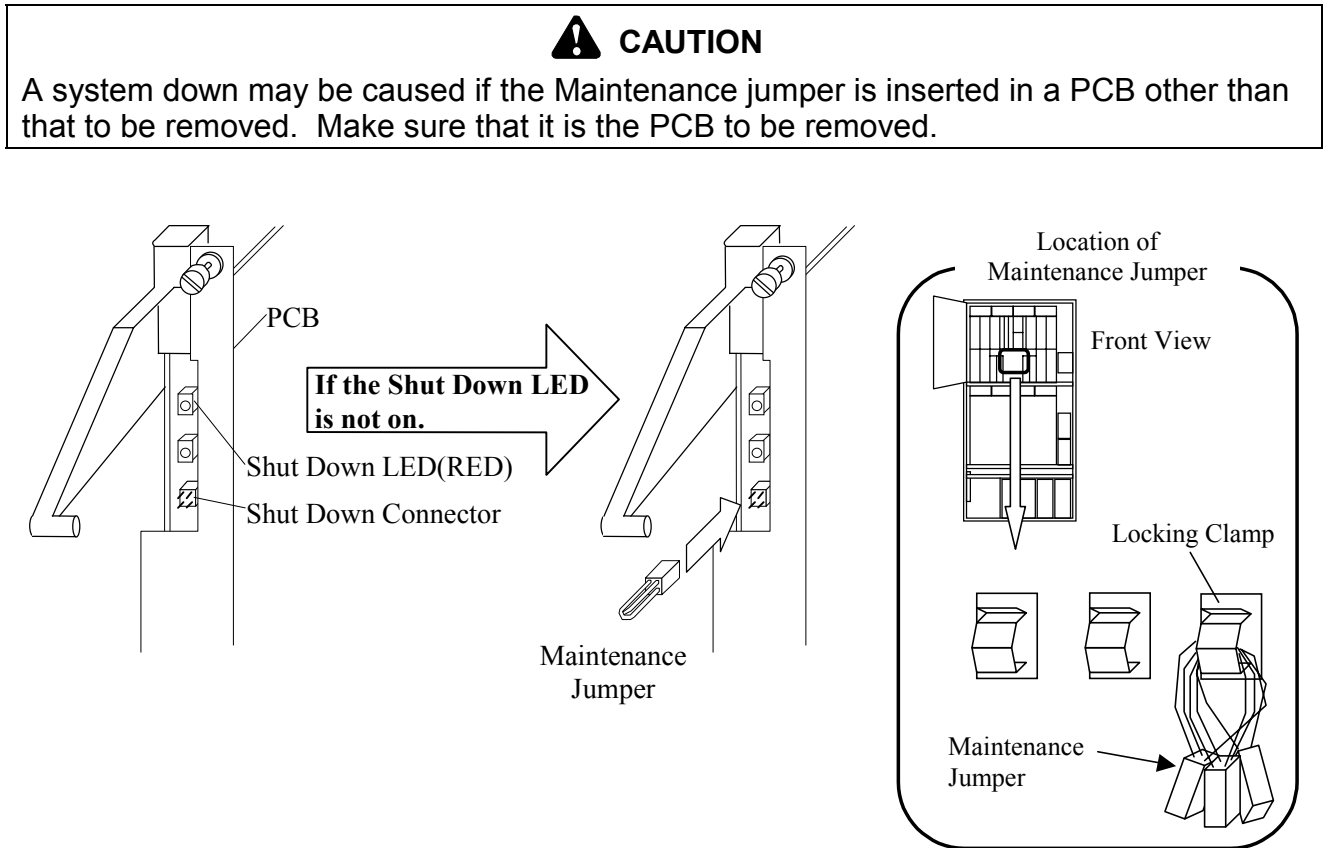

Fig. 4.2.1-1 Location of the Shut Down LED
- a. While referring to Fig. 4.2.1-1 and Table 4.2.1-2, check the Shut Down LED on the Cache Memory PCB in the Front Logic Box. Connect the Maintenance Jumper to the Shut Down Connector if the Shut Down LED is not on.